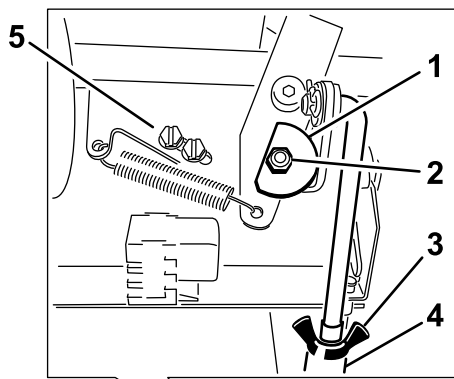

Figure 55
7. Loosen the nut and bolt holding the cam (Figure 55).